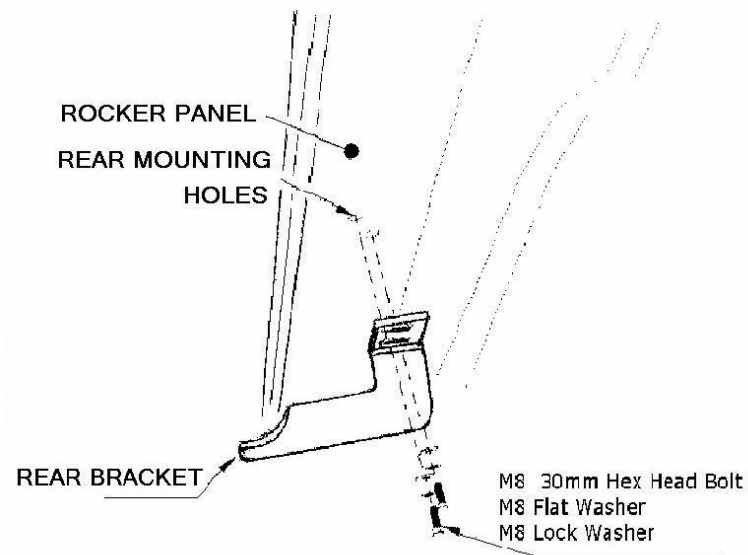

Figure 2. Installation View of Rear Driver Side Shown
4. Install driver side rear bracket using existing holes in rocker panel under the vehicle using 2 M8-1.25 x 30mm hex head bolts and washers per bracket. Hand tighten (**see Fig 2**).